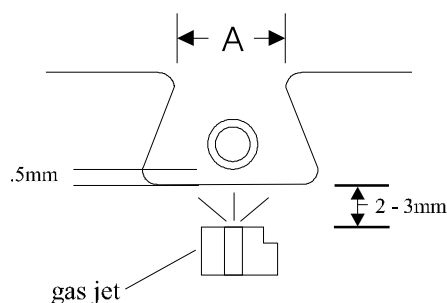
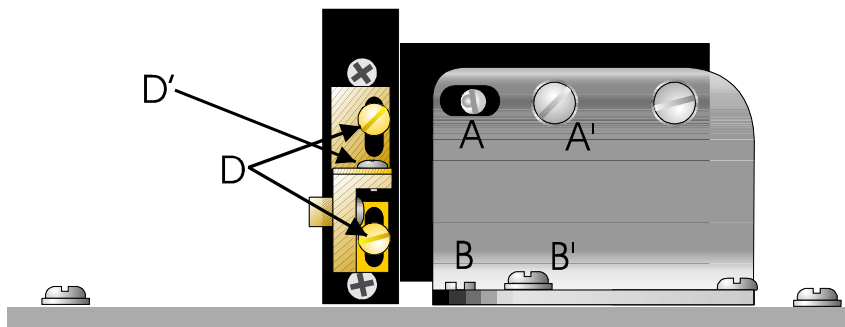

Figure 20. End View of Trough Filament and Glass.
Figure 23. Filament Alignment.
When using the trough filaments, the glass tubing should be positioned just above the bottom of the filament (approx. 0.5mm) and centered between the two sides (**Figure 20**). This position can be adjusted by using the two eccentric chrome screws located on the aluminum angle piece that holds the filament assembly (**A and B in Figure 23**). First loosen the two locking screws (**A' and B' in Figure 23**) and then the filament can be moved in relation to the glass tubing by turning the appropriate eccentric chrome screw (**A or B in Figure 23**). See the Filament Replacement section of the Maintenance Chapter for a full description of this adjustment.
The geometry of the trough filament is an important factor for proper heat application to the glass. Replacement trough filaments should have a profile similar to that illustrated in **Figure 20**, where the distance between the top corners (distance A) is approximately 2/3 the length of the bottom of the filament. This geometry will provide improved heat distribution to the top of the glass tubing. When replacing a filament, check the new filament geometry. If it differs appreciably from the ideal, you can easily modify it by grasping the bottom corners with non-serrated forceps and gently pushing on the horizontal 'wings'.
Filament replacement. The old heater filament can be easily removed by loosening the two clamp screws (**D' in Figure 23, only one shown**) that hold it in place. Slide out the old filament, slip in a new one and center it over the air jet. Then re-tighten the two clamp screws.
2. Locate the aluminum angle plate to the right of the filament assembly and behind the right carrier bar. Two chrome screws (**A and B in Figure 23**) in slots are mounted on this bracket, one located on the vertical face of the bracket and one on the horizontal face. Identify the flat head locking screws to the right of each chrome screw.